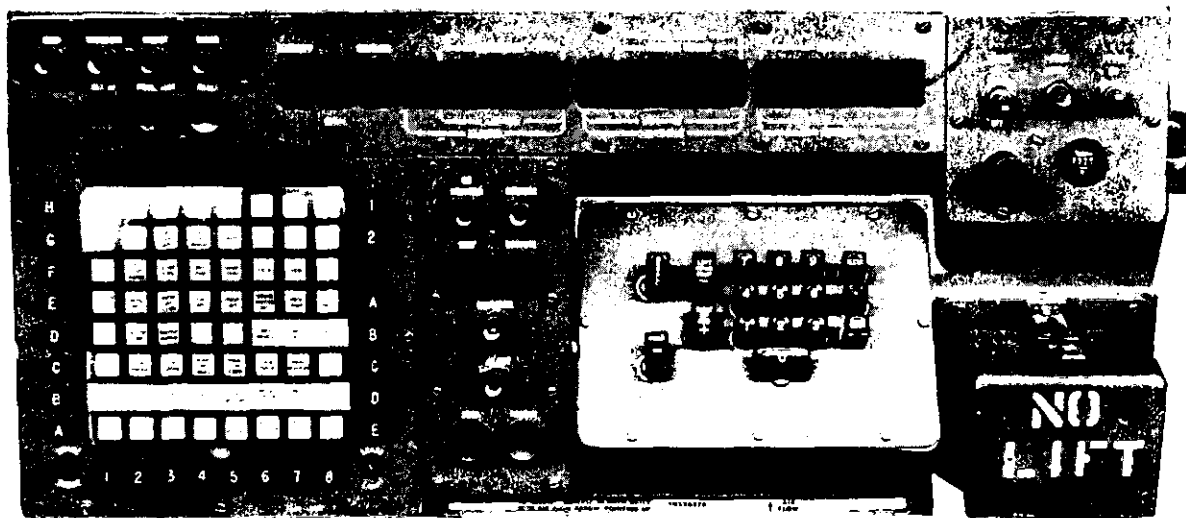

Figure 2. Control panel.
The computer control panel (fig. 2) con-
g. Display Panel. The display panel (fig. 2) consists of 18 Nixie tube indicators, which provide numerical, sign, and designation information as it is entered in the computer or as an output display of the solution to a problem. In most instances, the data entered through the keyboard are displayed on this panel and erased when the ENTER key is depressed. The panel is divided into six windows which display the following data:
- (1) The first window, BATTERY, indicates which lettered mission association button, A through E, is depressed.
- (2) The second window, SIGN, displays the algebraic sign (+ or -) associated with a numerical input or output.
- (3) The third window, CHARGE, indicates the security classification of the
The function of each control and indicator on the computer control panel (fig. 2) is described below: